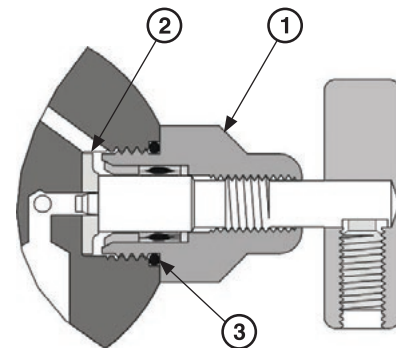

Figure 25: Replacement of the Purge Valve Seat
1.2 Replacement of the Purge Valve Seat (refer to Figure 25)
1. Purge the system as shown in step 1.1 and Figure 25.
2. Remove the purge valve bonnet and stem assembly ① (located at ③ in Figure 25), using a 3/4" hex wrench.
3. Remove the seat ② from the seat pocket.
4. Replace the seat ② and the O-ring ③.